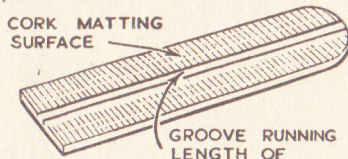

Fig. 3—A useful setting board
Simple setting boards are made by gluing a piece of cork matting to a board of the required size, then making a groove down the centre about $\frac{1}{2}$ in. wide (see Fig. 3). Several of these can be made with grooves of varying widths to take variously sized specimens. A sharp knife or razor blade is best used for cutting the groove. (271)